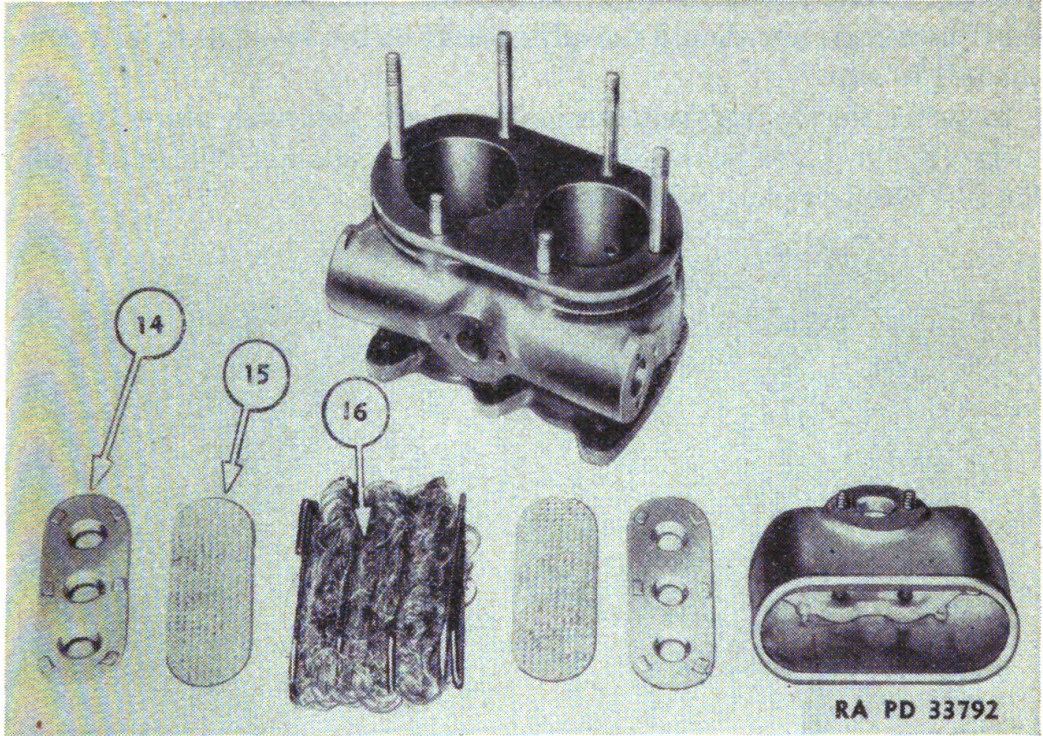

FIGURE 75.—Air strainer assembly.
68. Air strainer.—Remove the air strainer (fig. 75) from the block and disassemble by taking out wire lock, air deflectors (14), screens (15), and spring and curled hair (16). Wash the hair with kerosene or some noninflammable washing fluid, dry, then saturate with a light grade of pure mineral lubricating oil before replacing.